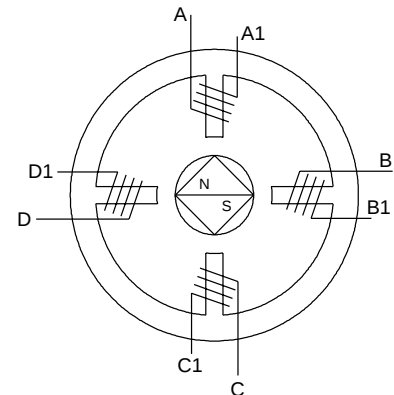

Figure 14: Permanent Magnet Step Motor
The permanent magnet (PM) step motor is shown in Figure 14. Permanent magnet motors differ from VR's by having a permanent magnet rotor with no teeth, which is magnetized perpendicular to its axis. The stator consists of two stamped steel cups with diagonally shaped teeth facing the rotor. Coils of wire are wrapped around each of the stator cups.